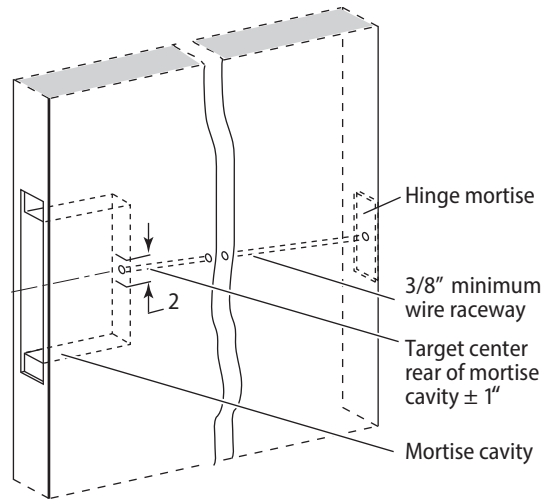

Figure 1 Preparing the wire chase through the door
- Drill a minimum 3/8" diameter wire raceway through the door, from the center hinge to the center back of the mortise cavity, $\pm 1"$ vertically (a 2" range) as shown in Figure 1.